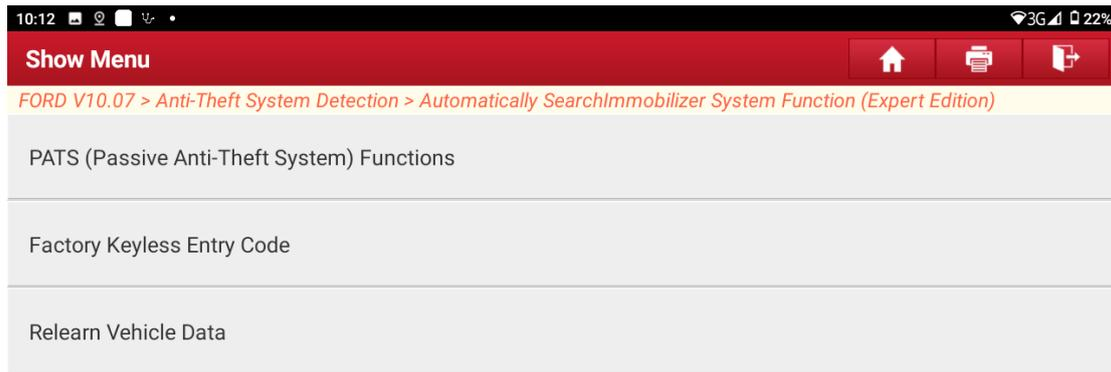

Figure 7
5. Choose [PATS (Passive Anti-Theft System) Functions]. See Figure 7.